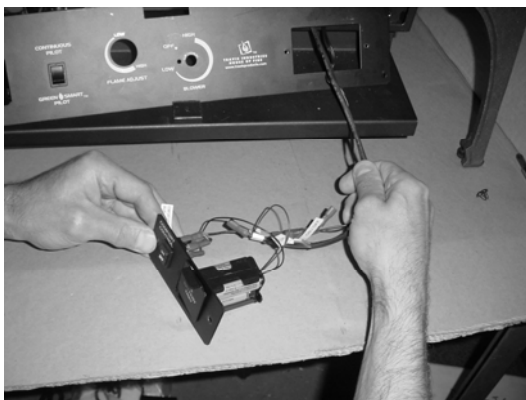
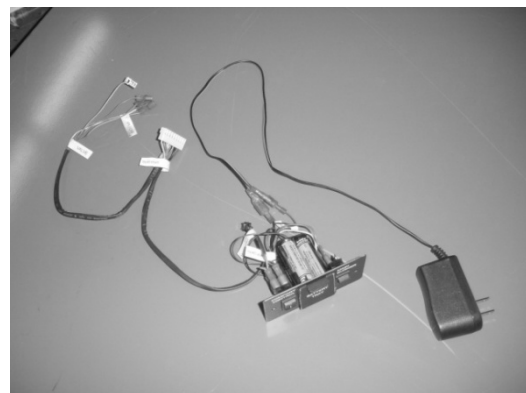

Figure 12
Figure 13
- 8 Pull the plate and wiring forward (see Figure 12). Un-hook the wires from the wire-locks and remove the wiring harness, plate, battery holder, and ac adapter (see Figure 13). These items may be discarded.